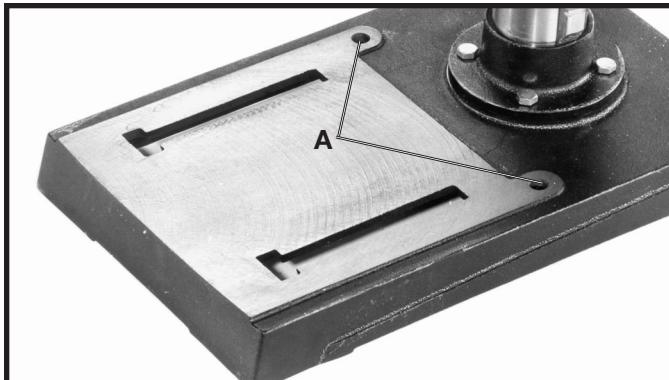
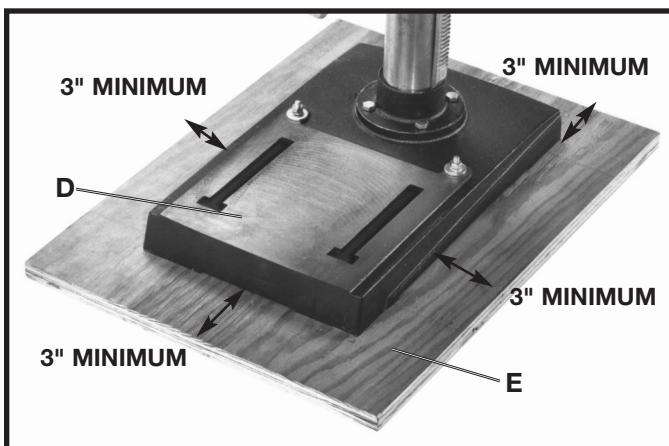

Fig. 3
Fig. 5
1. If your drill press is to be used in a permanent location, the drill press base must be secured to the supporting surface with fasteners through the two mounting holes, (A) Fig. 3, in the drill press base.
3. Place the drill press base (D) Fig. 5, centered on the supporting surface (E).
WARNING MAKE SURE THERE IS AT LEAST 3" ON ALL FOUR SIDES OF THE BASE AS SHOWN IN FIG. 5.
4. Drill two 3/8" diameter holes through the holes (A) Fig. 3 in the drill press base, and in the supporting surface (E) Fig. 5.